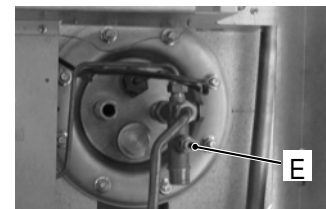

Figure 17.3
- Turn on the storage tank drain cock E in Fig. 17.3 and empty the d.h.w. tank.